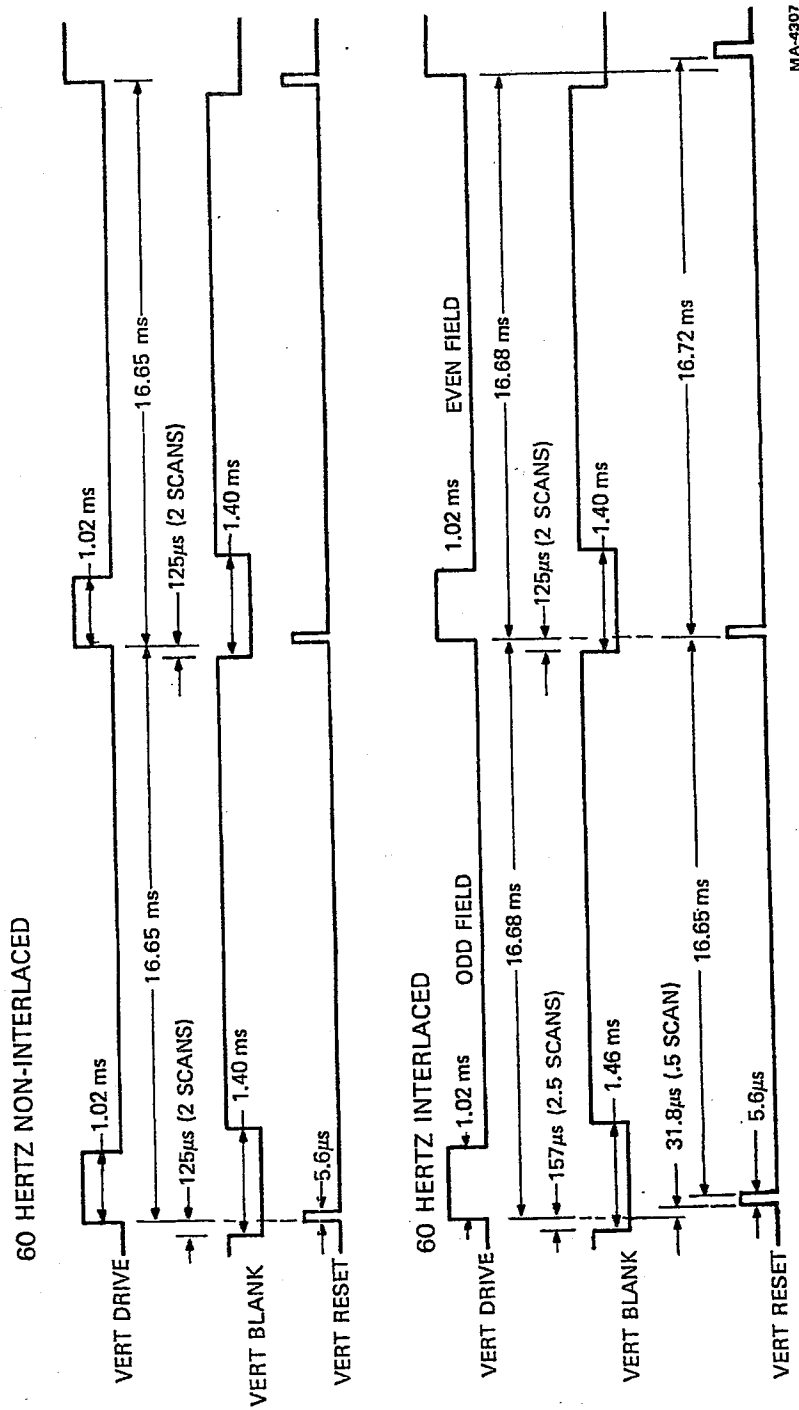

Figure 4-6-12 Vertical Signals - 60 Hz
4.6.2.10 Vertical Outputs – Three outputs are derived from the flip-flops in the vertical counter to control the vertical refresh operations in the VT100. These signals are shown in Figures 4-6-12 and 4-6-13 for all four modes. VERT DRIVE H is issued at the bottom of the screen to initiate a vertical retrace followed by a new vertical scan. This operation is analogous to the effect of HORIZ DRIVE L on horizontal scans. The time between any two VERT DRIVE Hs is a constant, equal to an even number of half-scans in noninterlaced mode and equal to an odd number of half-scans in interlaced mode. VERT BLANK L always enables exactly 240 scans during any field and blanks any remaining scans. Furthermore, VERT BLANK L is always turned off exactly 20 scans after VERT RESET H in 60 Hz mode and 50 scans after VERT RESET H in 50 Hz mode. VERT BLANK L is always adjusted to display complete scans even during odd fields in interlaced mode. VERT RESET H initiates the DMA process at the start of every field. When VERT RESET H goes high, the DMA address counters are reset to point to address 2000H in the screen RAM, all line attributes are cleared, and the scroll counter in the DC012 is preset to the value stored in the scroll latch. (See the DC012 description for more explanation.) During noninterlaced operation and on even fields, VERT RESET H occurs at the same time as VERT DRIVE H; but, on odd fields VERT RESET H is delayed one-half of a scan to match the start of a horizontal scan. The relationship of VERT RESET H and transitions of VERT BLANK L to HORIZ BLANK H and HORIZ DRIVE L is depicted in Figure 4-6-9. Notice that VERT BLANK L always turns on or off when the video is already blanked by HORIZ BLANK H.